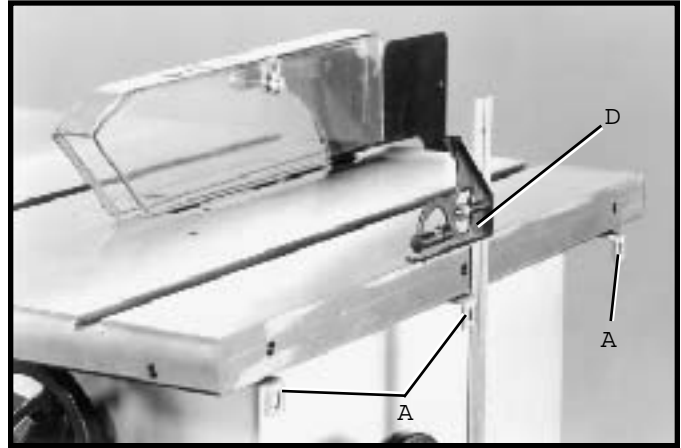

Fig. 41
2 Using a square (D) Fig. 41, make certain the Z-brackets (A) are perpendicular to the saw table as shown. Also, lift upward on Z-brackets (A) while tightening screws (C) to eliminate any play.